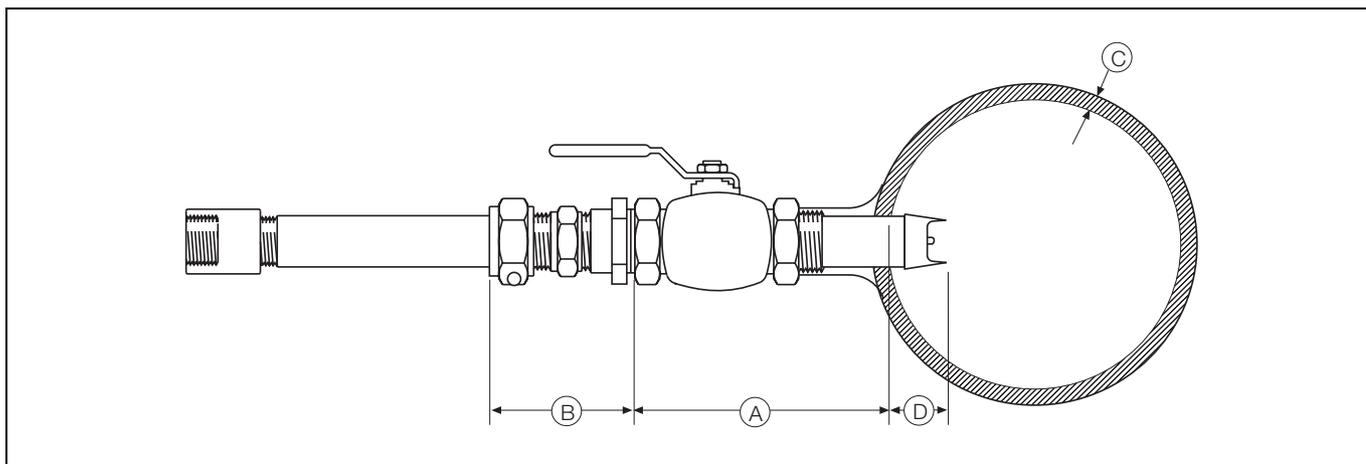

Fig. 2.5 Installing the AP304/5 – Installation Measurements
3. Measure and record the following distances – see Fig. 2.5:
- outside of pipe/vessel to the reducer at the back end of the valve (A).
- length of compression fitting after insertion into the reducer (B).
- pipe/vessel wall thickness (C).
- sensor insertion depth (D).